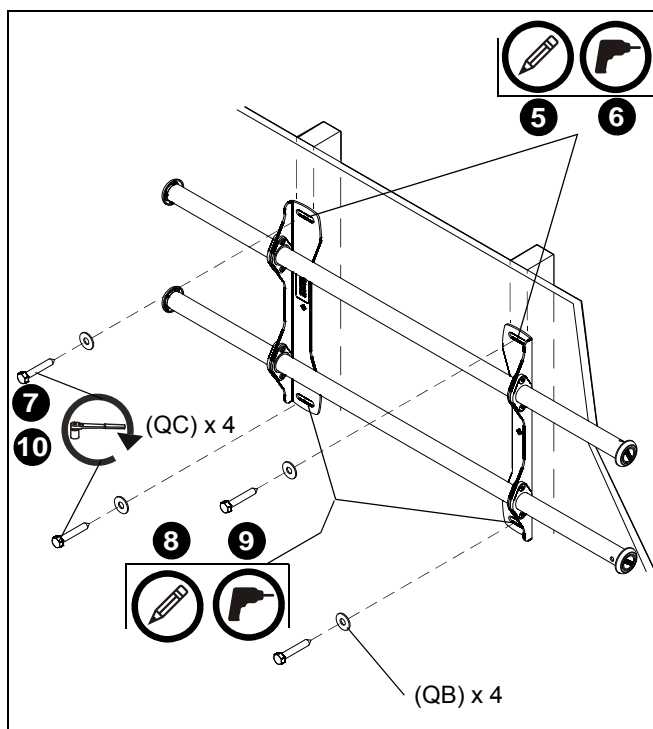

Figure 2
5. Using a level, mark the wall on each stud to attach the mount through the upper mounting slots. (See Figure 2)
7. Use two 5/16 x 2-1/2" lag bolts (QC) and two 5/16" flat washers (QB) to attach top of mount to wall. (See Figure 2)
8. Mark the attachment points for the lower mounting slots, making sure the attachment points are located on the studs. (See Figure 2)
9. Drill 7/32" (5.5mm) pilot holes at markings for lower mounting holes. (See Figure 2)
10. Use two 5/16 x 2-1/2" lag bolts (QC) and two 5/16" flat washers (QB) to attach the mount to the wall through the lower mounting holes. (See Figure 2)